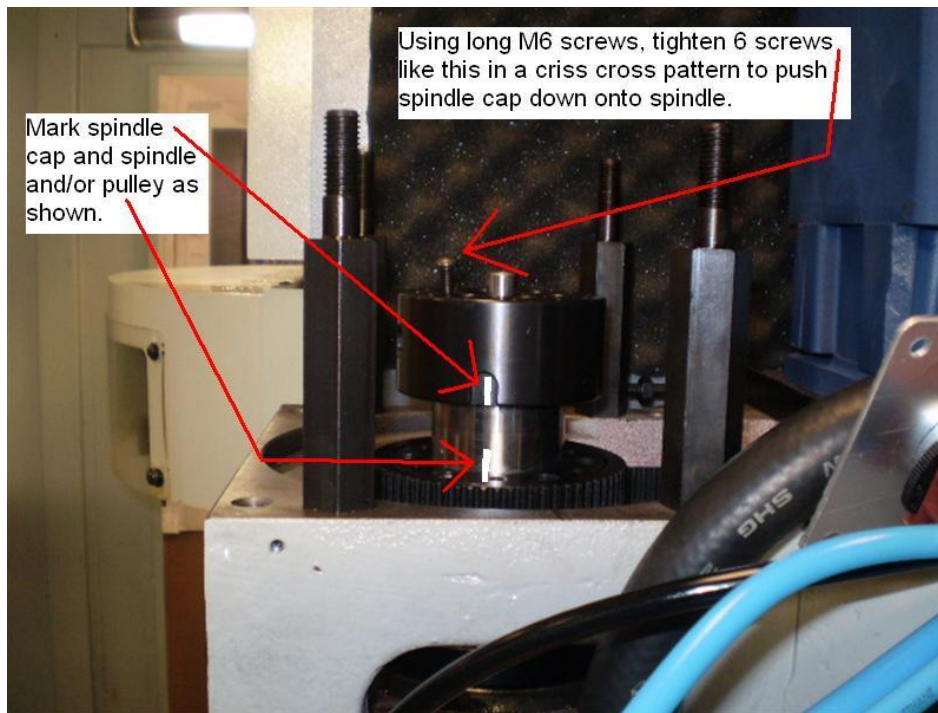

Figure 6.15.1c
9. Mark item 16 found on drawing 26848 relative to the spindle or spindle pulley. This spindle cap must be put back on in the same orientation to ensure the balancing of the spindle is not affected. See figure 6.15.1c below.